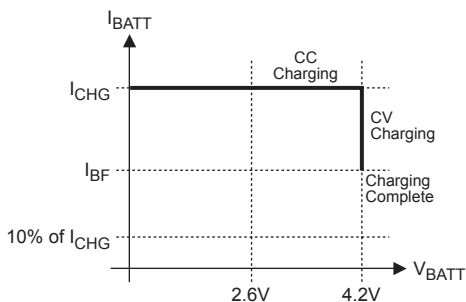
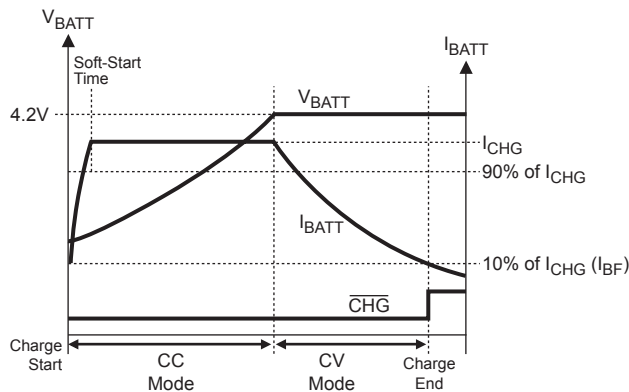

Figure 2—MP2604 Typical Charging Profile
Figure 3—MP2604 Typical Charging Procedure
Figure 2 below shows the typical charging profile for the MP2604. Figure 3 shows the typical charging procedure. For a depleted battery the MP2604 will start with the constant current of the programmed value (I_{CHG}). This is referred to as Constant Current (CC) mode. Once the battery voltage reaches 4.2V, the charger will operate in the constant voltage (CV) mode until the battery is fully charged. The charge current drops during CV mode, and the battery full indication is set when the charge current in the CV mode is reduced to the programmed full battery current (I_{BF}).